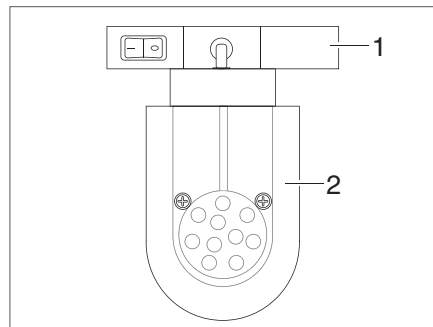

Fig. 139 LED spot light (example)
- Grasp the holder (Fig. 139,1) and turn it 90°.
- Remove the LED spotlight (Fig. 139,2) from the rail system.
- Insert the LED spotlight (Fig. 139,2) into the rail system at the desired position and turn 90°.